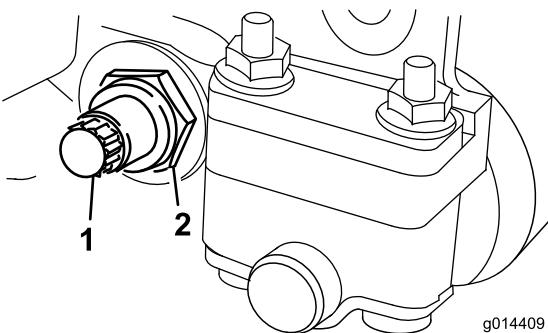
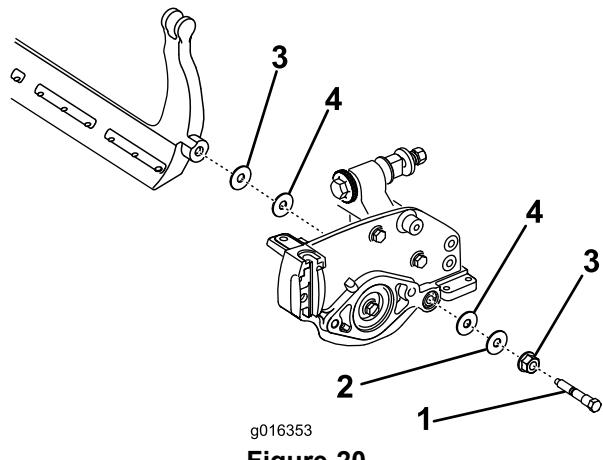

Figure 19
Figure 20
3. On each side of the machine, loosen the lock nut securing the bedbar bolt (Figure 19).
4. Remove each bedbar bolt allowing the bedbar to be pulled downward and removed from the machine bolt (Figure 19). Account for the two nylon and one stamped steel washers on each end of the bedbar (Figure 20).
2. Secure the bedbar to each side plate with the bedbar bolts (nuts on bolts) and 6 washers. A nylon washer is to be positioned on each side of the side plate boss. Place a steel washer outside each of the nylon washers (Figure 20). Torque the bedbar bolts to 240-320 in-lb (27-36 N·m). Tighten the locknuts until the outside steel washer stops rotating and the end play is removed but do not overtighten or deflect the side plates. The washers on the inside may have a gap.